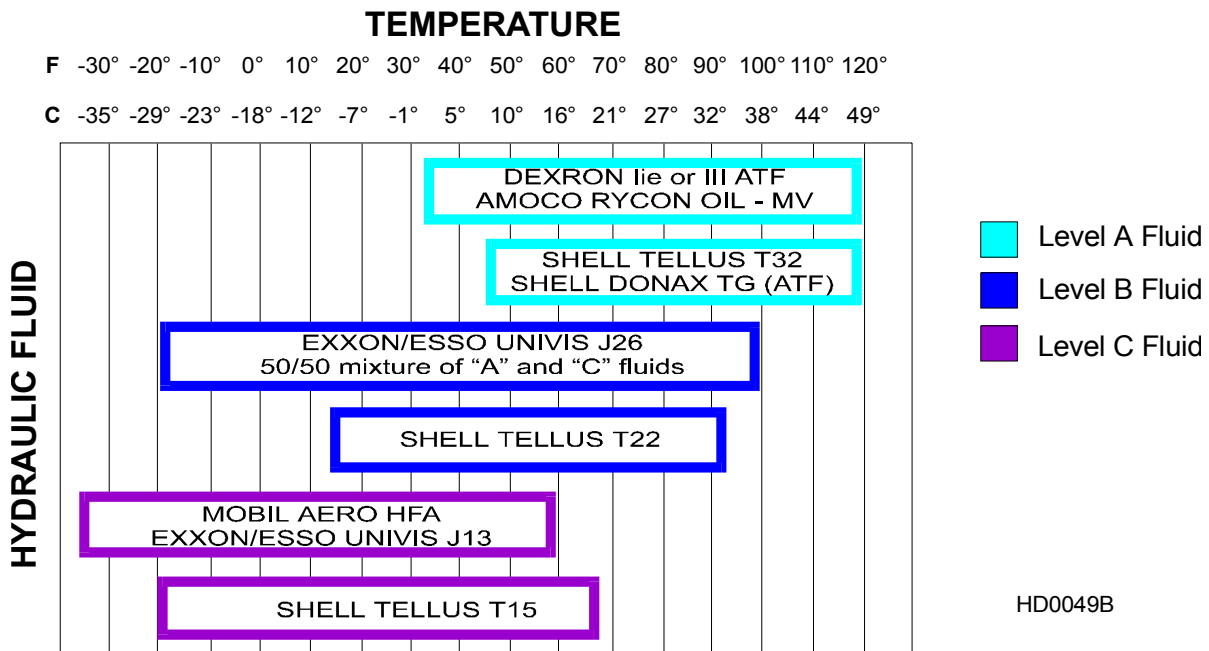

FIG. 3-7
**See Figure 3-7.** If you are operating in temperatures -20° to 100° F (-29° to 38° C), use an all-weather hydraulic fluid such as Exxon Unavis J26. For alternate fluids and/or other temperature ranges, refer to the chart below. Operating above the recommended temperature range of a fluid could result in excessive pump wear. Operating below the recommended temperature range could result in reduced hydraulic cylinder speed.